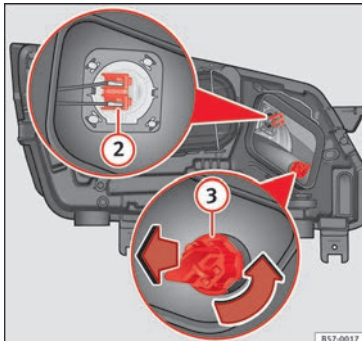

Fig. 105 In the engine compartment: main beam headlight bulb (2) and turn signal bulb (3).
3. Slide connector »» Fig. 105 (2) to the left or right and pull.
3. Turn the bulb holder »» Fig. 105 (3) anticlockwise and pull.